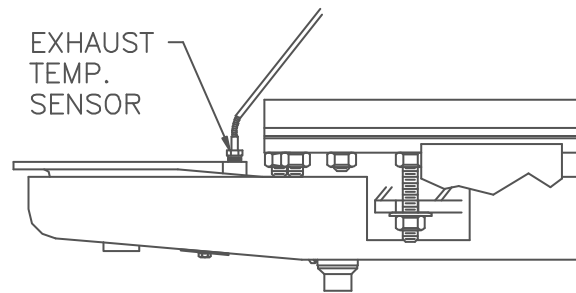

Figure 6.12
12. Disconnect the exhaust temperature sensor by unscrewing it from the exhaust manifold, (See Fig. 6.12).